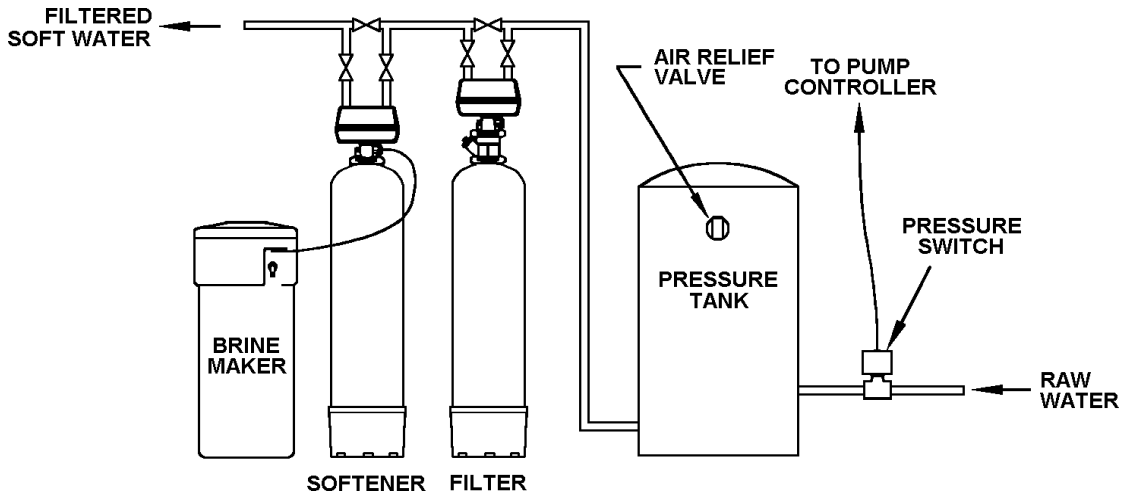

Figure 1. INSTALLATION SCHEMATIC
- 3) Locate in correct relationship to other water conditioning equipment (Figure 1).